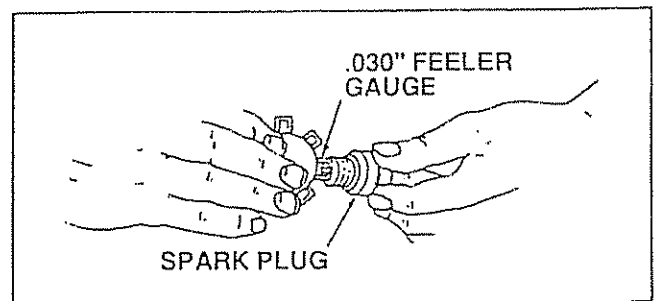

FIGURE 16
- Set gap at .030" (Fig. 16). Order Spark Plug listed in the Repair Parts Section of this Manual.